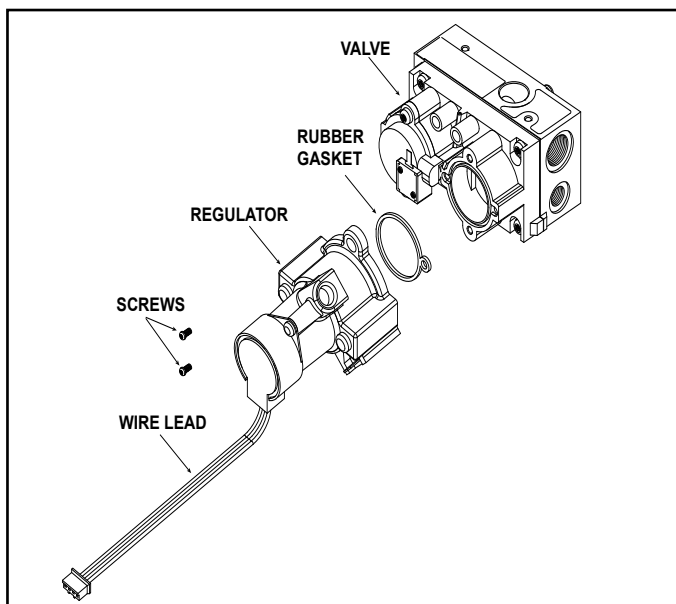

Figure 4
- Using a #20 tamper-proof Torx screwdriver, remove the regulator and rubber gasket on face of valve. See Figure 4. Discard both the regulator and gasket.
- Install the rubber gasket and new regulator included in the conversion kit. Be sure the gasket is seated properly as shown in Figure 4.